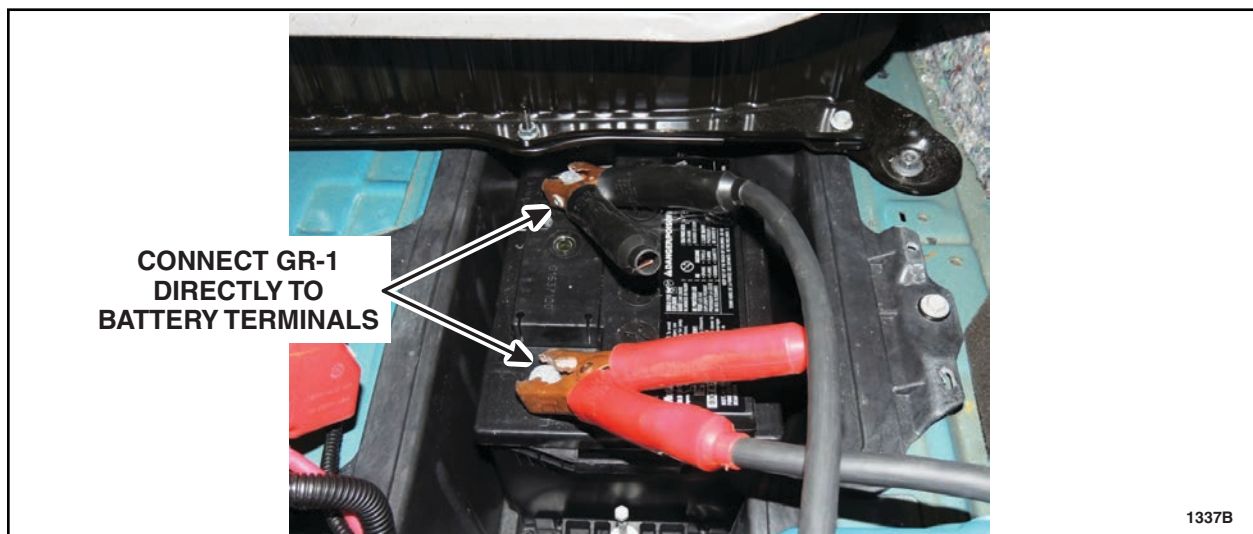

FIGURE 1
3. **NOTE:** The Rotunda GR-1 tester/charger **must be connected to battery terminals only**, cables must be removed and no other connections such as body ground can be in the circuit during testing. See Figure 1.